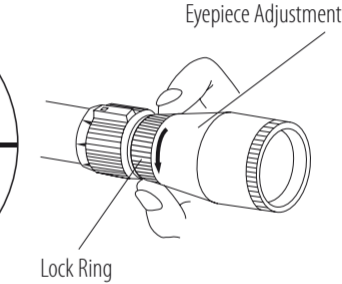

Fig. 3-2
- Finally, without moving the eyepiece adjustment, turn the eyepiece lock ring as in Fig. 3-2 to the end so that the eyepiece adjustment will be firmly locked.